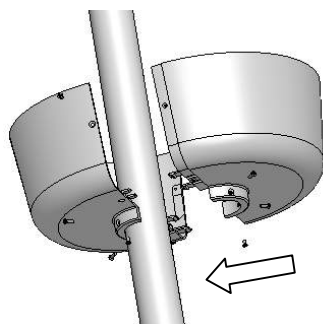

Fig 5
- To fit the cover, place both halves around the stem then carefully but firmly push together. See fig 5